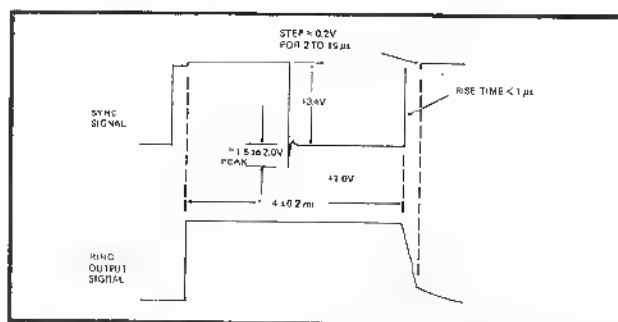

Figure 4-12. RING COUNTER SYNC SIGNAL.
- The ring counter synchronizing signal, TP11, should appear as shown in Figure 4-12.